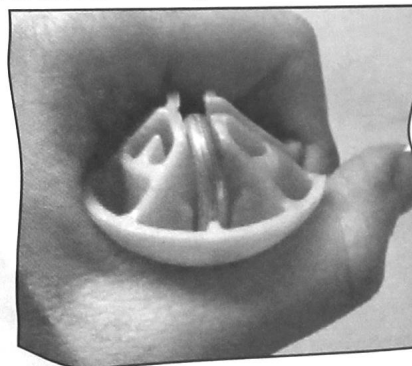

FIGURE 5
6. Hold suspension rod with one hand and with the other, pull suspension ball up. A 'snap' will be felt when the rod is fully seated in the ball. See Figure 5.